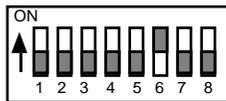

Figure 2-2 U22 Factory Setting
5. Locate the two dip switches. Switch U22 sets the GPIB parameters. Switch U20 sets the serial parameters. Review their setting against the switch rocker definitions in Tables 2-1 and 2-2. Mark the new settings along the bottom of the switches in Figures 2-2 and 2-3.
Standard 4894-8s are shipped from the factory with U22 set to G mode, SRQ disabled and address 04 as shown in Figure 2-2.